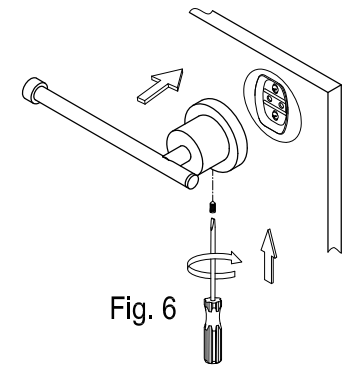

Fig. 6
- Step 6. Place the unit, with the small hole in the base underneath, over the mounting plate by tightening the slotted set screws with a flat head screwdriver until the base is tightly fixed (fig 6).
- Step 5. Place the unit, with the small hole in the base underneath, over the mounting plate by tightening the slotted set screw with a flathead screwdriver until the base is tightly fixed (fig 6).
- Step 5. Place the unit, with the small hole in the base underneath, over the mounting plate by tightening the slotted set screws with a flat head screwdriver until the base is tightly fixed (fig 6).